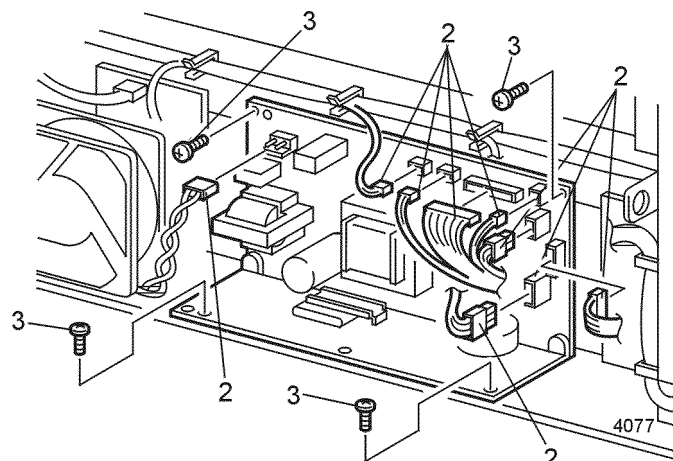

Figure 1 Low Voltage Power Supply (LVPS)
2. Disconnect P/J168, P/J167, P/J166, P/J165, P/J164, P/J163, P/J162, and P/J161 from the LVPS Assembly (Figure 1).
3. Remove the four screws that secure the LVPS Assembly to the printer (Figure 1).